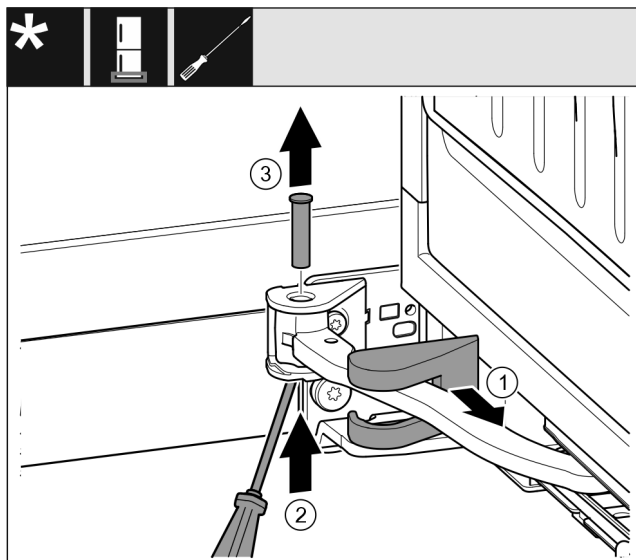

Fig. 15
- Remove the swap bearing block cover Fig. 15 (1) and slide along the joint.
- Use a screwdriver to lift the bolt Fig. 15 (2) from below.
- Pull out the bolt Fig. 15 (3) from above.